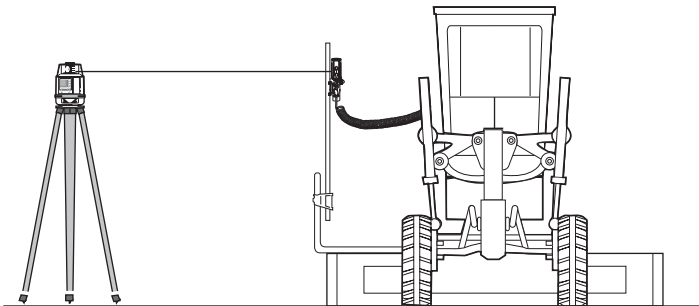

Figure 9-6. Laser Tracker Machine Setup
6. Position the vibration pole vertically so the Trackerjack is at an optimum height for the job application (Figure 9-6). For graders, position the L-Bar horizontally so the Laser Tracker is near the end of the moldboard.